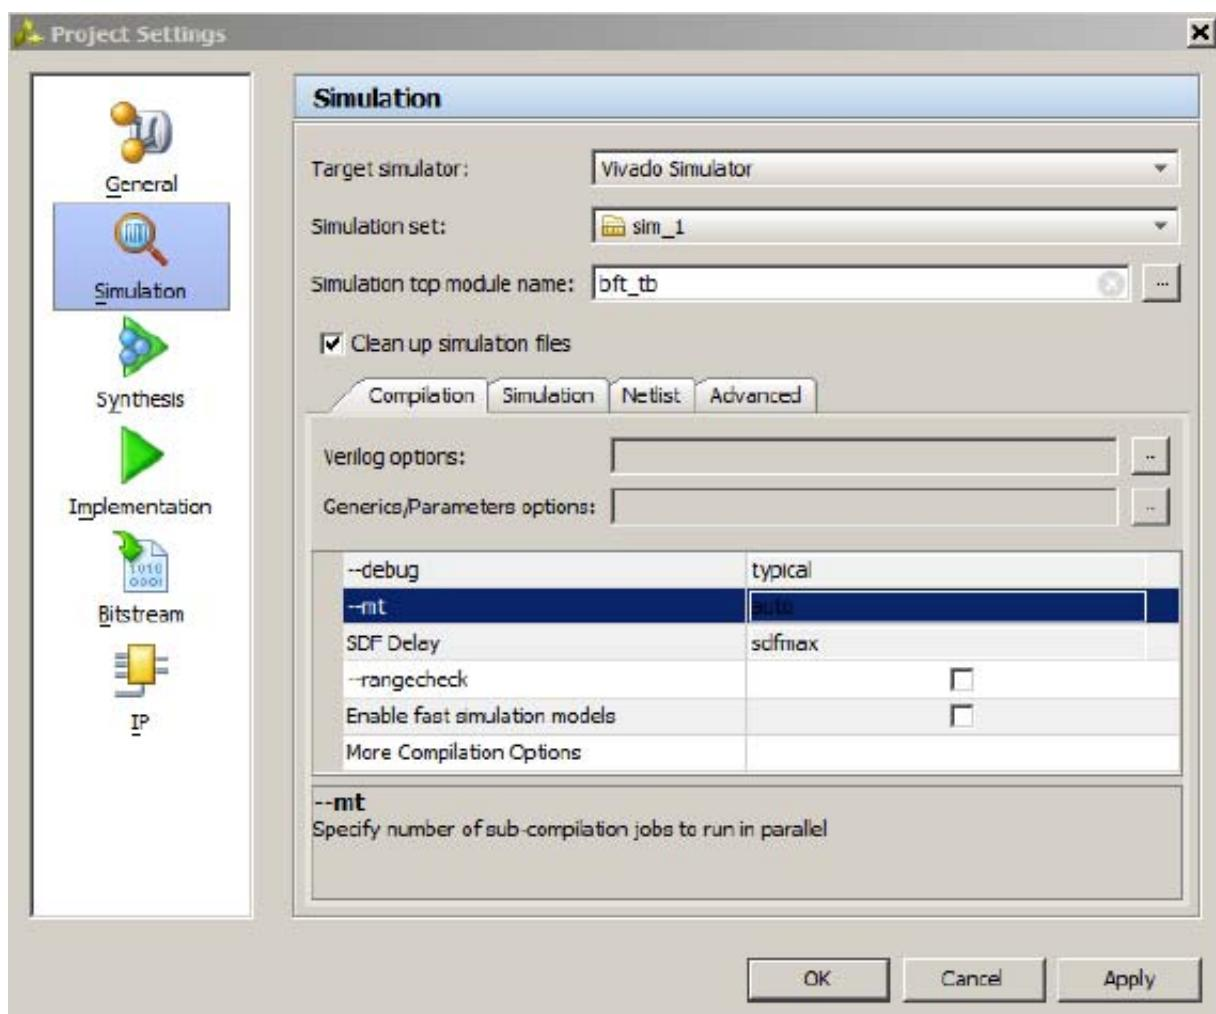

Figure 3-3: Simulation Settings Dialog Box
- **Run Simulation:** Sets up the command options to compile, elaborate, and simulate the design based on the simulation settings, then launches the Vivado simulator. When you run simulation prior to synthesizing the design, the Vivado simulator runs a behavioral simulation, and opens a waveform window, (see Figure 3-3, page 39) that shows the HDL objects with the signal and bus values in either digital or analog form.
When you select **Simulation Settings**, the Project Settings dialog box opens, as shown in Figure 3-3.